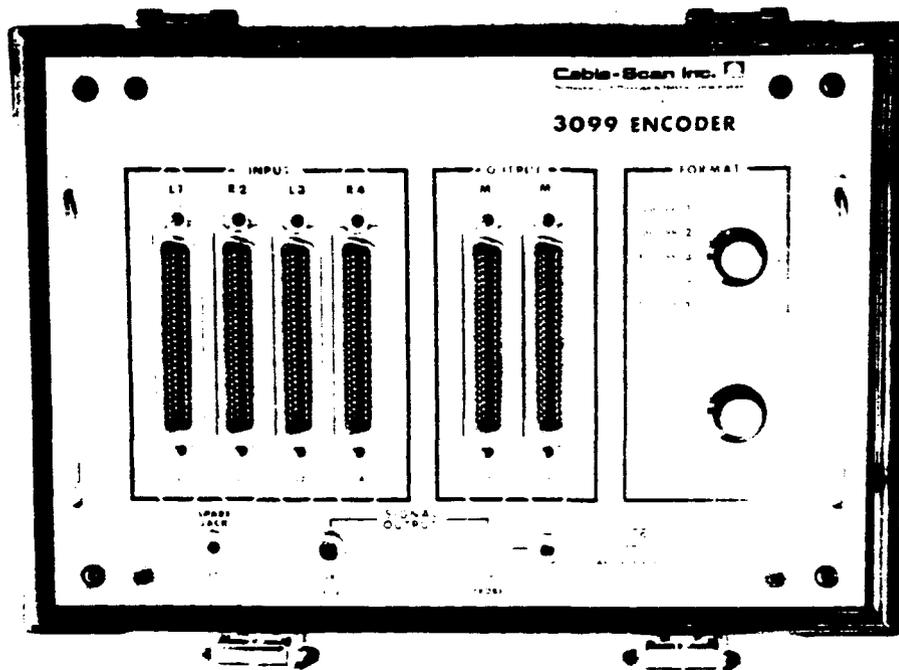

FIG. 5 ITE-5423 200 CIRCUIT ENCODER
2.4 ITE-5423 200 Circuit Encoder (Figure 5)